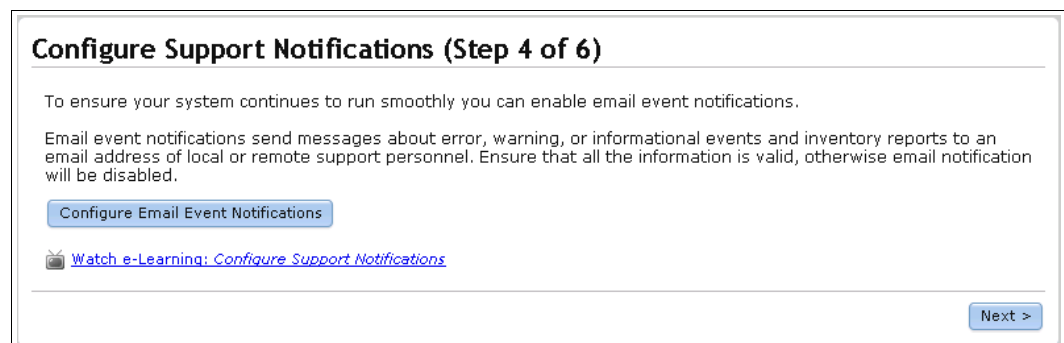

Figure 2-17 Setup wizard option email and event configuration
1. Click **Configure Email Event Notification** (Figure 2-17) to start the email configuration wizard.